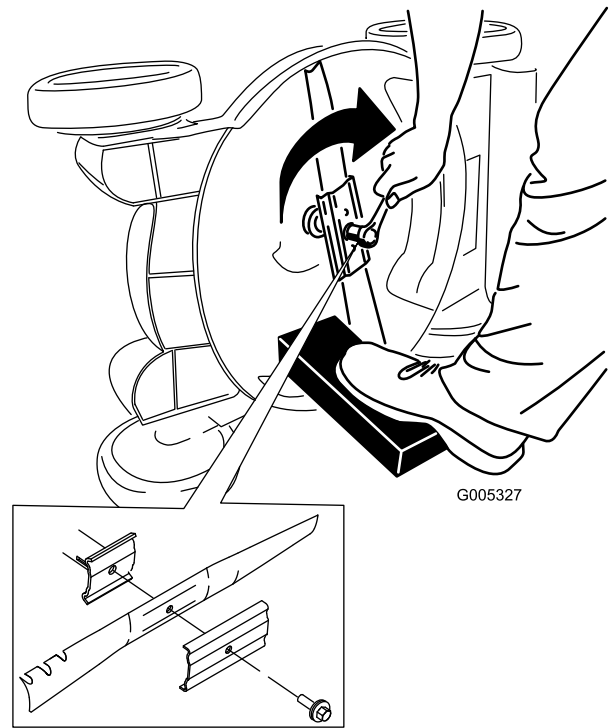

Figure 40
5. Install the new blade and all mounting hardware (Figure 40).